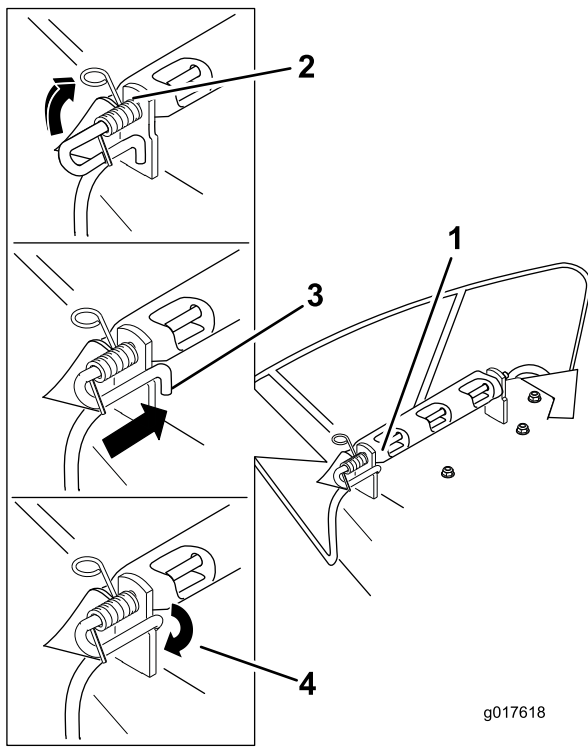

Figure 61
3. Position the new discharge deflector with the bracket ends between the welded brackets on the deck as shown in Figure 61.
5. Lift the loop end of the spring and place it into the notch on the deflector bracket (Figure 61).
6. Secure the rod and spring assembly by twisting it so the short end of the rod can be placed behind the front bracket welded to the deck (Figure 61).